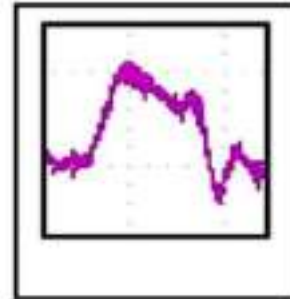

Figure 1- Correct mA drive signal waveform.
- Does the waveform appear as shown in Figure 1?